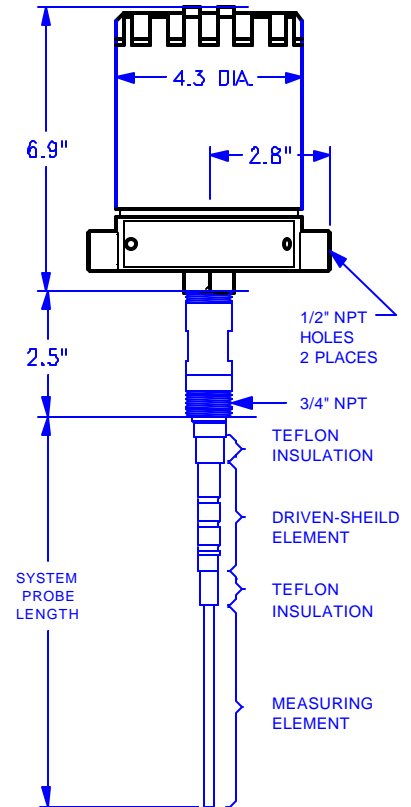

FIGURE 2-3
- Figure 2-3** Series 200 Mounting Details
The tip of a downward angle-mounted or vertically-mounted level probe must correspond with the desired level control point. If the Series 200 is already installed and the probe tip extends below this point, simply cut off an appropriate length of the measuring element (Figure 2-3) so that the new tip matches the control point. Do not cut insulation material.